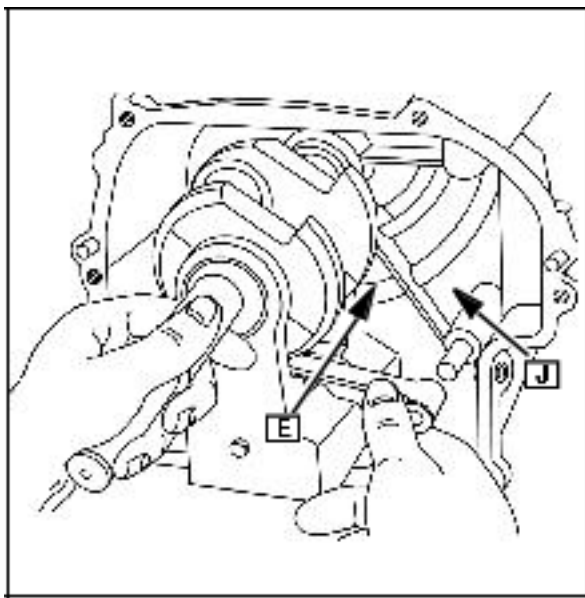

Fig. 20
Align link (E) with cylinder link pin ([J] Fig. 20). Push assembly into place.